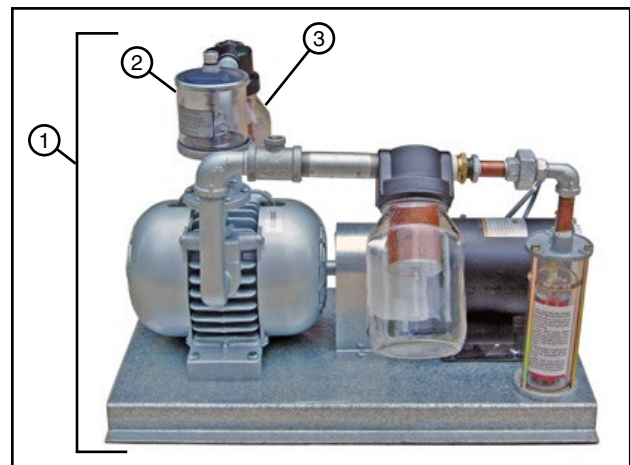

Figure 101-3 1. Electric primer pump
- The Vacuum Pump requires occasional flushing. Remove the pressure gauge and run 1/4 cup of flushing solvent (GAST AH225 or equivalent) through the pump. See Figure 101-3.
- LUBRICATION: The automatic bearing oiler should be refilled as needed with a high detergent automotive engine oil with a viscosity equivalent to SAE 10W or less. See Figure 101-3.
- AIR FILTER: Clean the air filter regularly. Remove air filter from its holder and wash thoroughly in solvent and let dry completely, then re-install air filter in its holder. Replace air filter every year. See Figure 101-3.